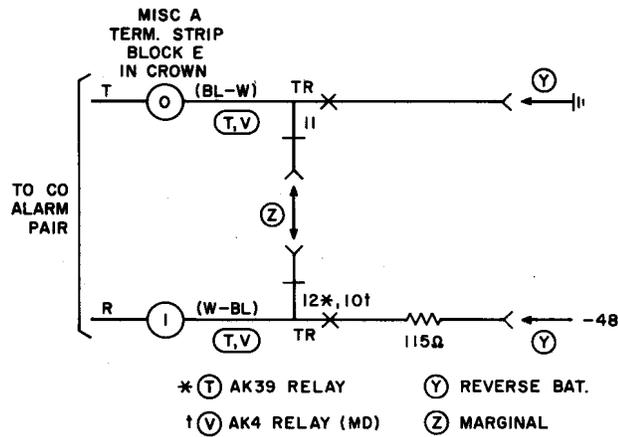

Fig. 32—Alarm to Central Office
**Both types are shop wired as shown in Fig. 32. Remove option not required at contacts of TR relay, located slide 1, mounting space 17.**